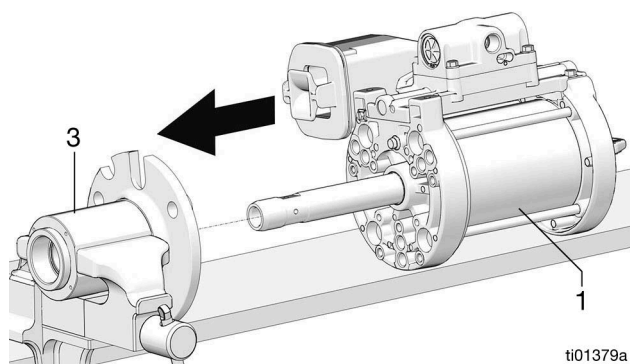

FIG. 21
- Reinstall the air motor (1), slide the displacement rod (14) through the outlet housing (3) (FIG. 21).